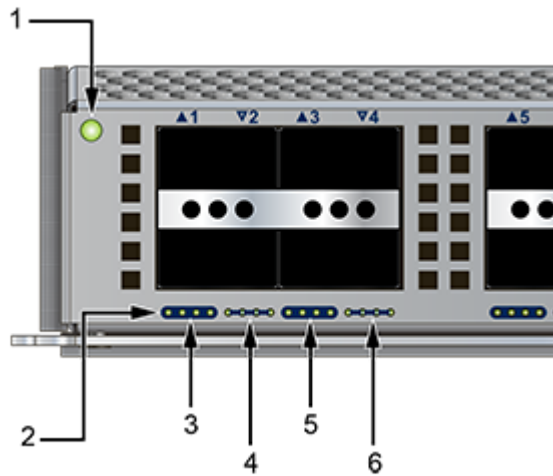

Figure 28: Linecard Status LEDs (DCS-7300X-32Q-LC)
- Figure 28: Linecard Status LEDs \(DCS-7300X-32Q-LC\) displays QSFP module LEDs. A set of four LEDs correspond to each module. When the module is programmed as a 40G port, the first LED in the set reports status. When the module is programmed as four 10G ports, each port is assigned to an LED within the set.